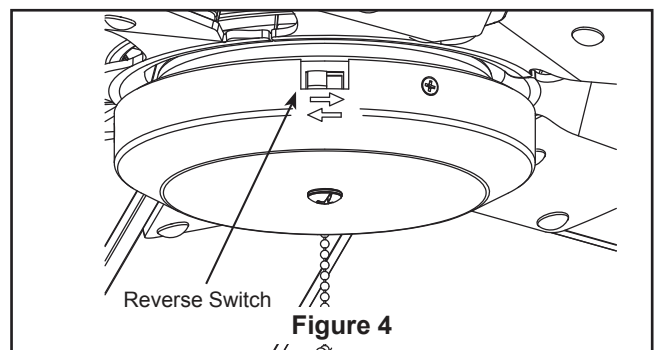

Figure 4
4. If airflow is desired in the opposite direction, turn the fan off and wait for the blades to stop turning. Slide the reverse switch on the switch cup assembly to the opposite position and turn fan on again. (Figure 4)